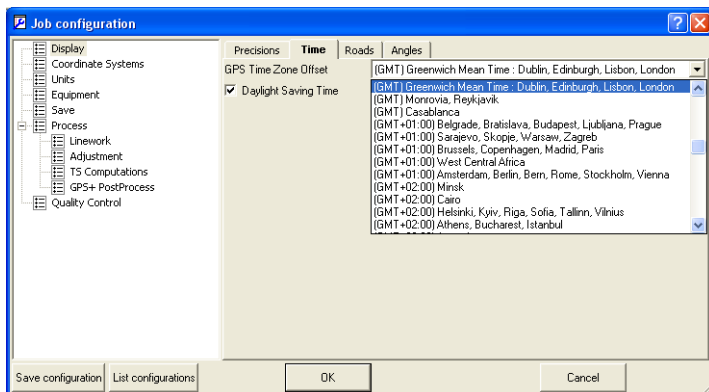

Figure 2-12. Job Configuration – Time Tab
- The *Time* tab (Figure 2-12) sets the GPS time zone offset and automatic fixing clock for daylight saving changes.